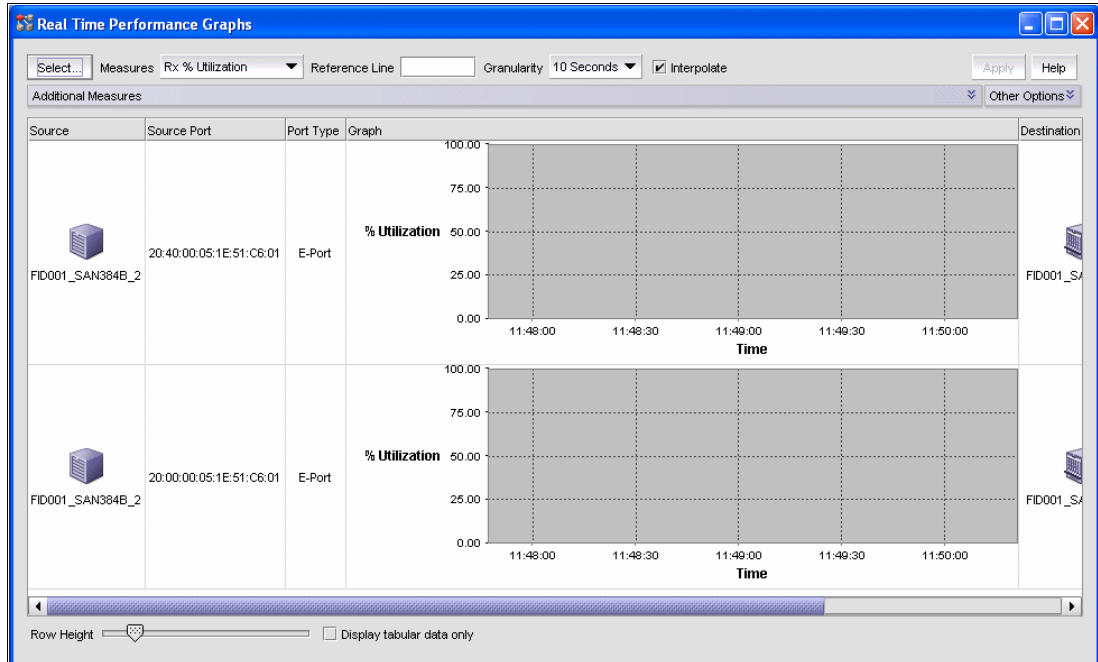

Figure 9-7 Real-Time Performance Graphs
4. Click **OK** to save the changes. The Real Time Performance Graphs window displays (Figure 9-7 on page 334).